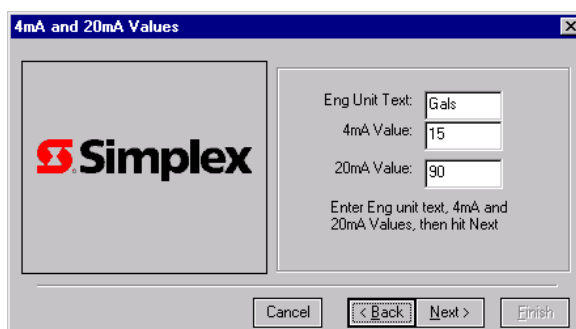

Figure 12-3. 4mA and 20 mA Values Dialog
3. Click the Next button to view the dialog shown in Figure 12-3.
5. Click the Next button at the bottom of Figure 12-3 to continue. A dialog similar to the one shown in